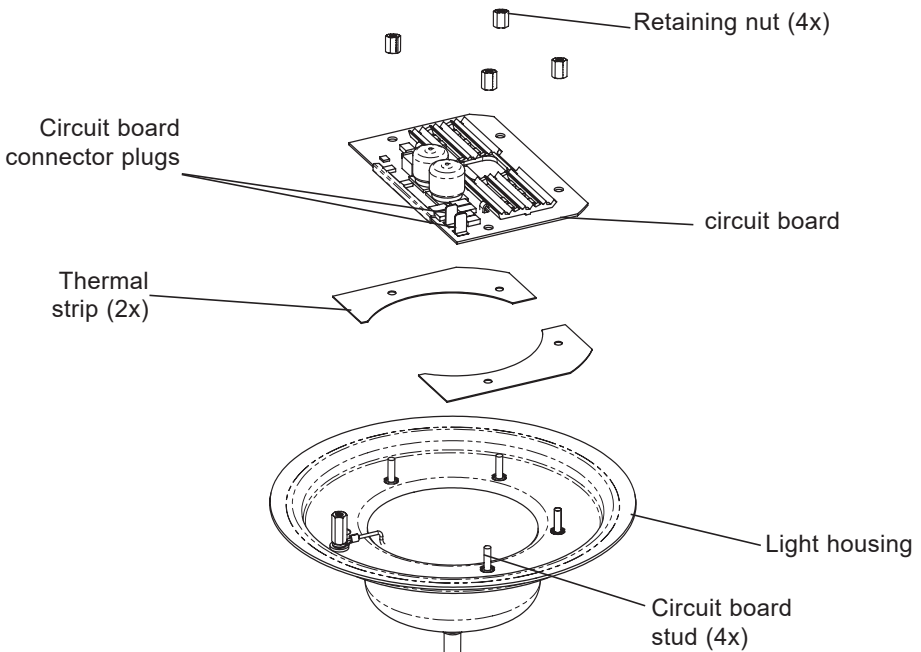

Figure 8.
6. Using a  $\frac{1}{4}$ " nut driver, carefully remove the four retainer nuts from the light assembly. See Figure 8. Place the nuts aside for reinstallation. See Figure 8.
### Installing the SlimLite Light Circuit Board (See Figure 8)